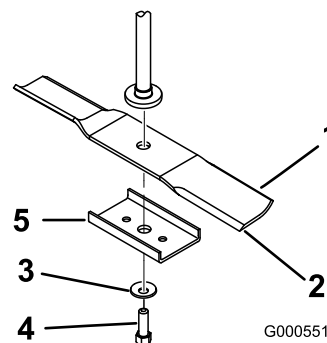

Figure 52
2. Remove the blade bolt, curved washer, and blade from the spindle shaft (Figure 52).
1. Install the blade onto the spindle shaft (Figure 52).
2. Install the curved washer (cupped side toward the blade) and the blade bolt (Figure 52).